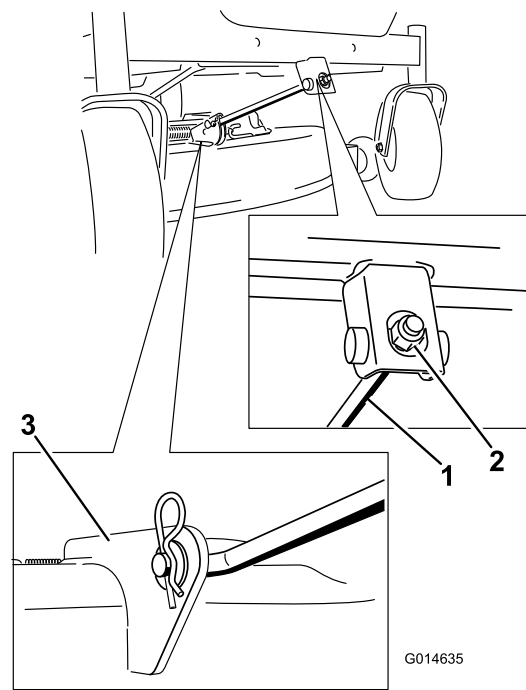

Figure 55
4. Remove the hairpin cotter from the front support rod, and remove the rod from the deck bracket (Figure 55). Carefully lower the front of the mower deck to the ground.
6. Attach the front support rod to the mower deck with the clevis pin and hairpin cotter (Figure 55).